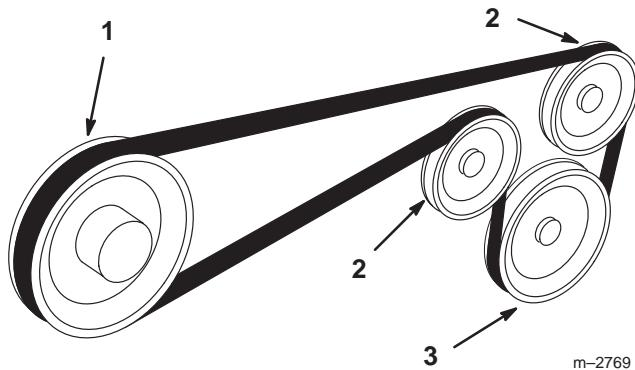

Figure 23
5. Rotate idler bracket to relax belt tension and slip belt off snowblower pulley (Fig. 23),